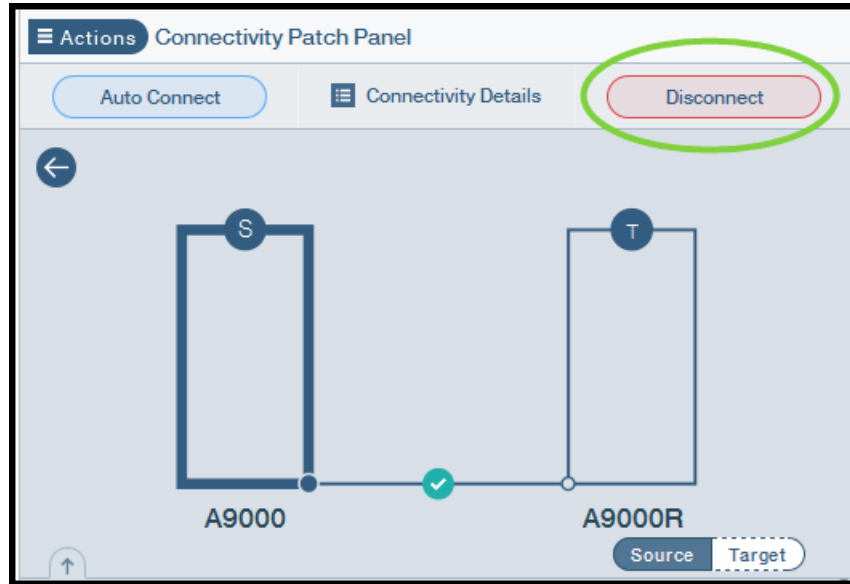

Figure 1-26 Target Connectivity Disconnect
1. Click **Disconnect** in the Connectivity Patch Panel display, as shown in Figure 1-26, and click **Apply** in the resulting confirmation display.